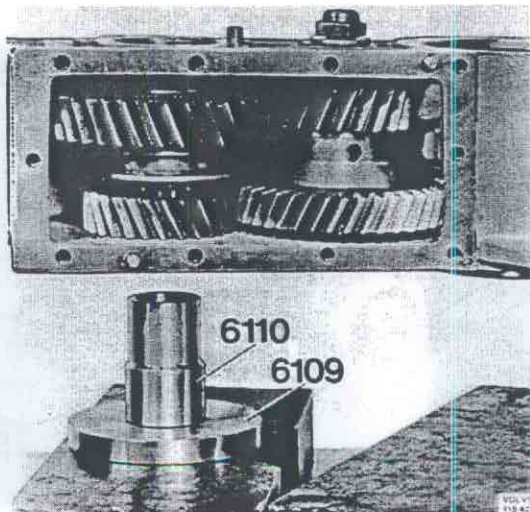

Fig. 43-190. Placing aux. gearbox on counterhold
5. Fit the drift 6110 in the plate 6109 and place them on the press table. Place the auxiliary gearbox on the drift, with the synchronizing hub resting against the drift, Fig. 43-190. Support under the box so that it is horizontal.